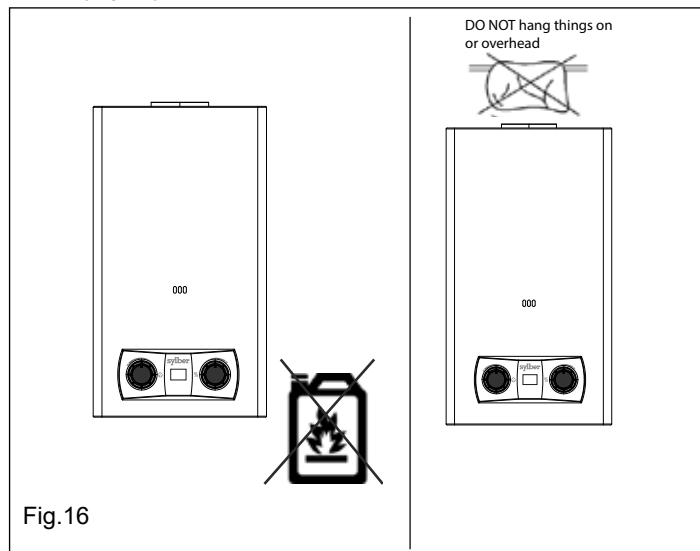

Fig.16
- Do not place any, especially inflammable materials under or near or over, or on top of the product (Fig. 16) and do not block the air